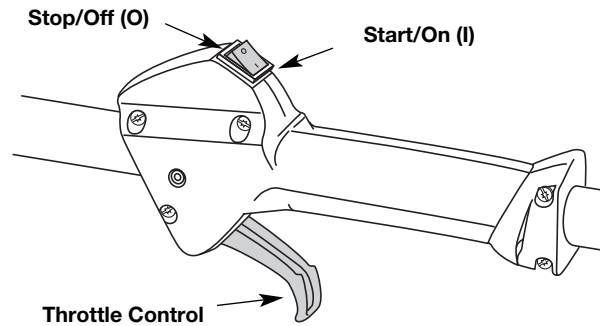

Fig. 7
2. Press and hold On/Off Stop Control in the OFF (O) position until engine comes to a complete stop (Fig. 7)